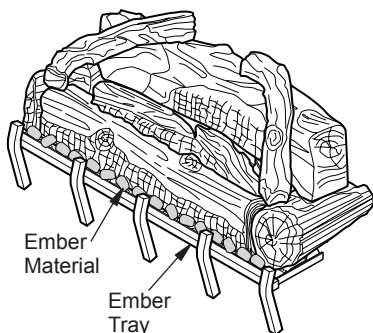

Figure 59 - Applying Ember Material
5. Break apart about quarter sized pieces and place about a single layer along the full length of the ember tray to hide the bottom edge of the base log. (see Figure 59).